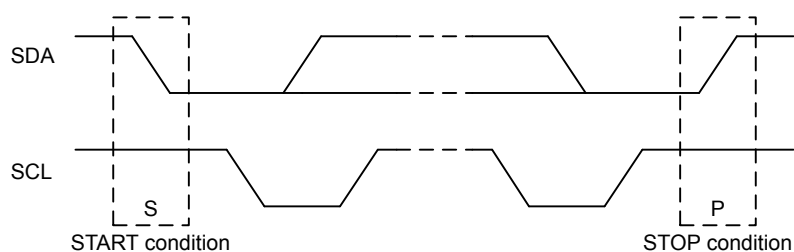

Figure 16.4. I²C START and STOP Conditions
START and STOP conditions are used to initiate and stop transactions on the I²C-bus. All transactions on the bus begin with a START condition (S) and end with a STOP condition (P). As shown in Figure 16.4 I²C START and STOP Conditions on page 494, a START condition is generated by pulling the SDA line low while SCL is high, and a STOP condition is generated by pulling the SDA line high while SCL is high.